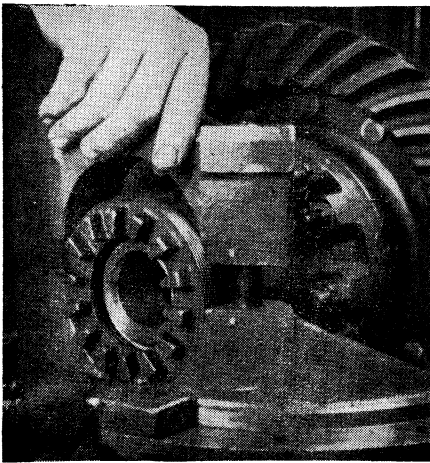

Fig. 88 Install bearing caps in correct position as marked and tap into position
4. Install bearing caps in the correct location as marked, Fig. 88, and tap lightly into position.